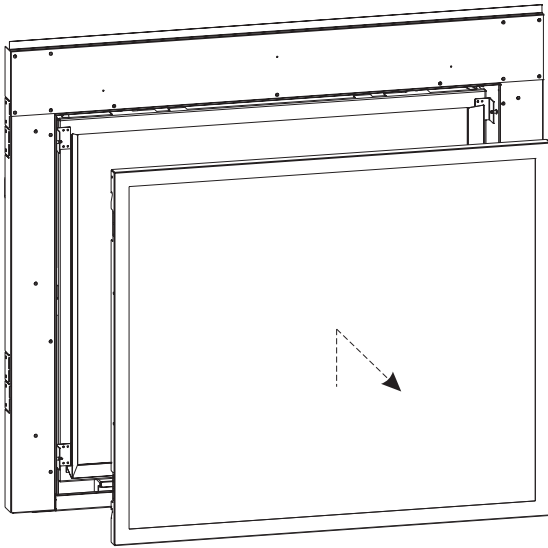

Figure 30
See Figures 30 and 31.
- Check the barrier screen for fit and structural integrity. **See Figure 30.**